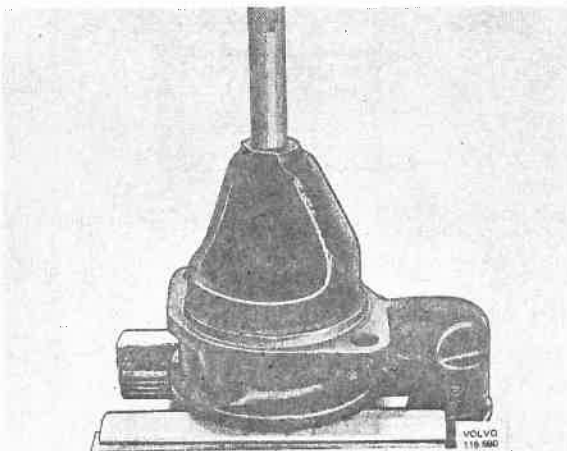

Fig. 33-25. Replacing the bushings
1. Press or pull out the bushings with a suitable drift or extractor, see Figs. 33-25 and 33-26.